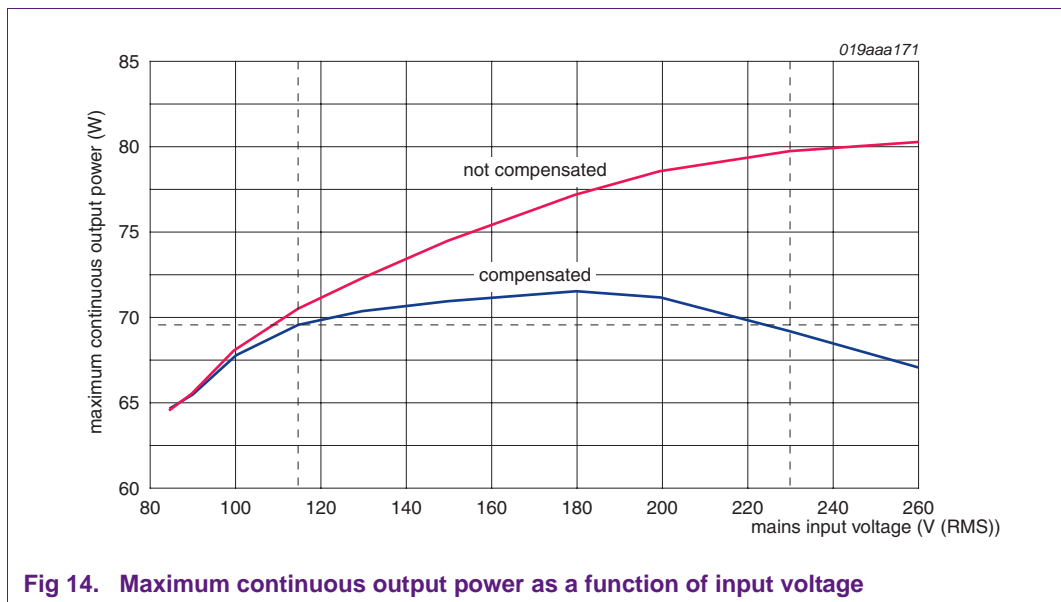

Fig 14. Maximum continuous output power as a function of input voltage
- The output power as a function of the input voltage is not a linear function (see Figure 14). When the maximum output power has been tuned to be equal for the absolute highest and lowest input voltage, the actual maximum output power will be slightly higher between these limits.